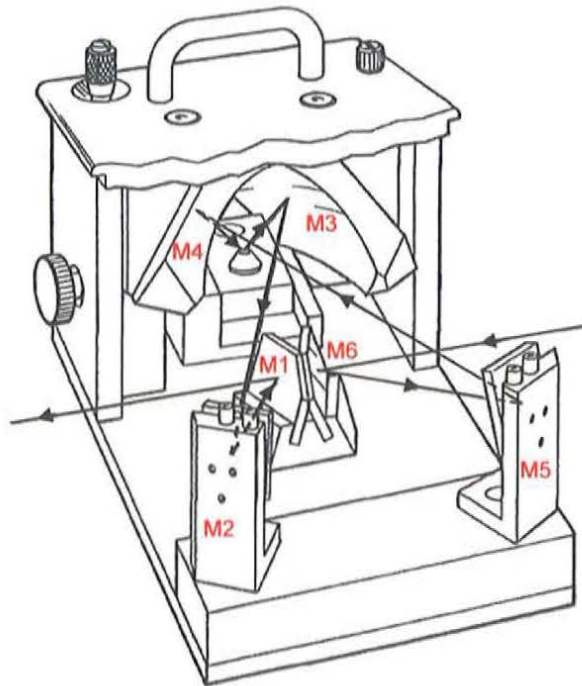

Figure 5 • Interior View of the Praying Mantis™
- Remove the plastic caps over mirrors M2 and M5. This allows access to the turn and tilt adjustments for these mirrors (Figure 5).